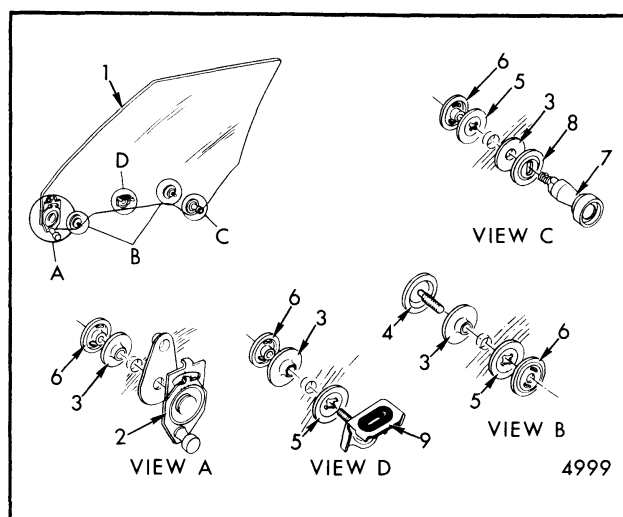

Fig. 5-97-Front Door Window Assembly - "B and C-39, 49" and "C-69" Styles
Figure 5-97 is an exploded view of the window assembly and identifies the various components and their assembly sequence.
**NOTE:** When installing glass attachments, torque nuts to 72 inch pounds (6 foot pounds). Also, when replacing door glass, replace glass spacers and washers ("3" and "5", Fig. 5-97).